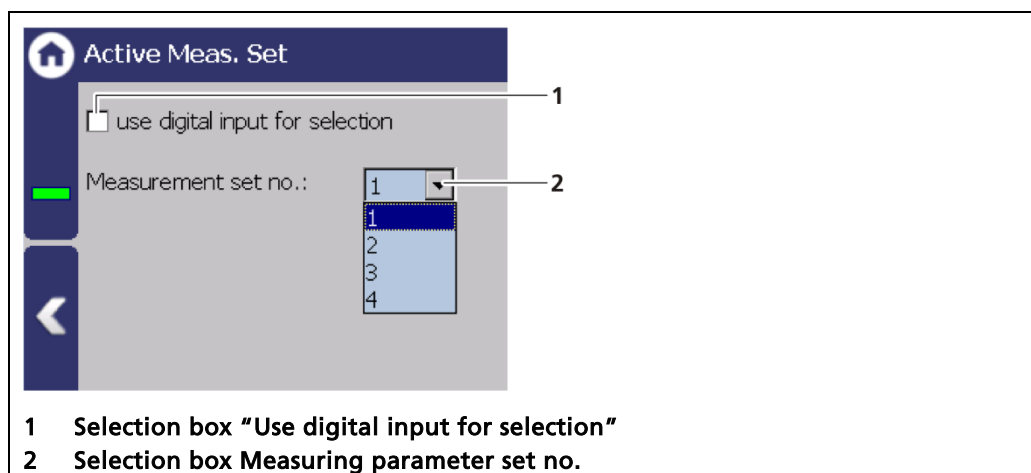

Fig. 96 Active Measuring set
1. Select the measuring parameter set (Fig. 96, item 2) that needs to be activated by the digital input.
2. Activate the selection box "Use digital input for selection" (Fig. 96, item 1).